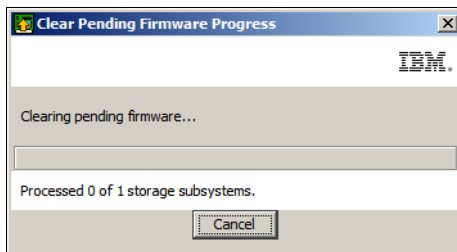

Figure 14-54 Clear Pending Firmware Progress
- c. Click the **Yes** button to clear the pending firmware upgrade and the **Clear Pending Firmware Progress** window shown in Figure 14-54 will appear.